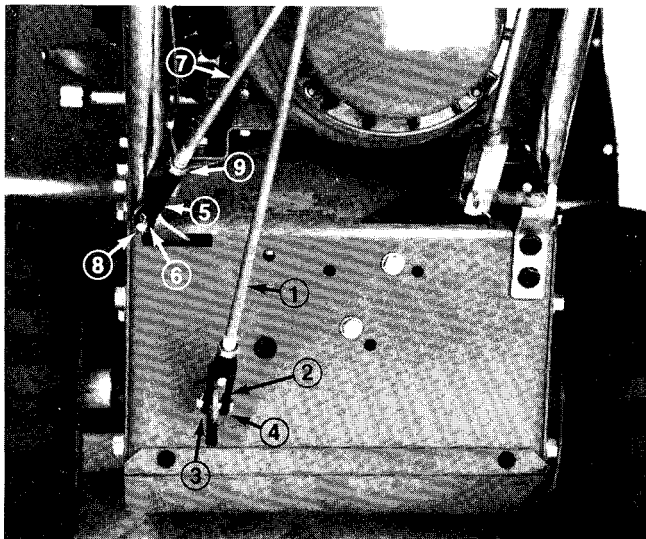

Figure 35
6. Loosen jam nut from clevis at bottom of longest wheel drive control rod (Fig. 35). Next remove cotter pin and clevis pin holding clevis to link arm (Fig. 35). If rubber drive wheel is too close to the front pulley, lengthen the rod by rotating clevis (Fig. 35) one half turn counterclockwise. By contrast, if rubber drive wheel is too close to the rear friction disc, shorten the rod by rotating clevis (Fig. 35) one half turn clockwise.